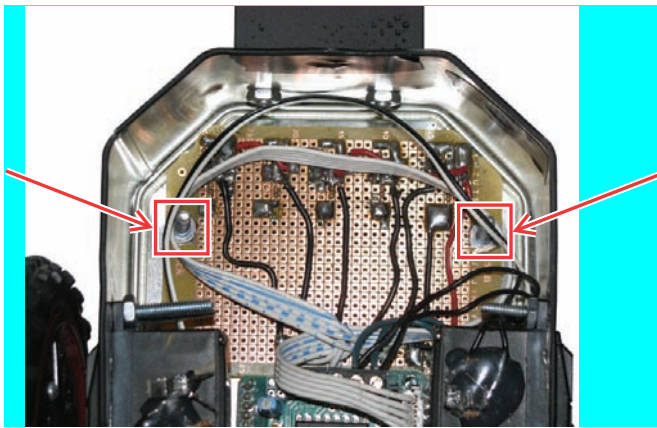

Figure 4-30. Mount the IR sensor board into the frame, face down, and tighten nuts.
5. Place the IR board with the sensors down, into the frame and through the access hole that you cut in the front base of the frame. With the sensors poking through the access hole, mark four mounting holes in the IR board with a marker. You can place mounting holes anywhere that does not interfere with the wires in the circuit. Drill the marked holes with a 1/8-inch bit and mount #6 bolts through the frame, from the bottom pointing upward. Now place the IR board onto the bolts and secure it with another nut on each side (see Figure 4-30). Make sure the IR sensors are evenly protruding from their access hole in the base—they should each be about 0.25 inch from the ground.